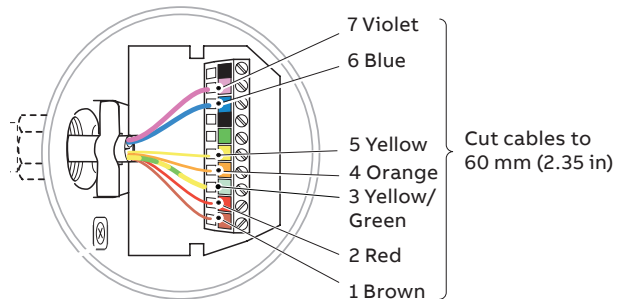

Figure 17 Cable connections at insertion sensor terminal block
- Make connections only as shown in Figure 17.